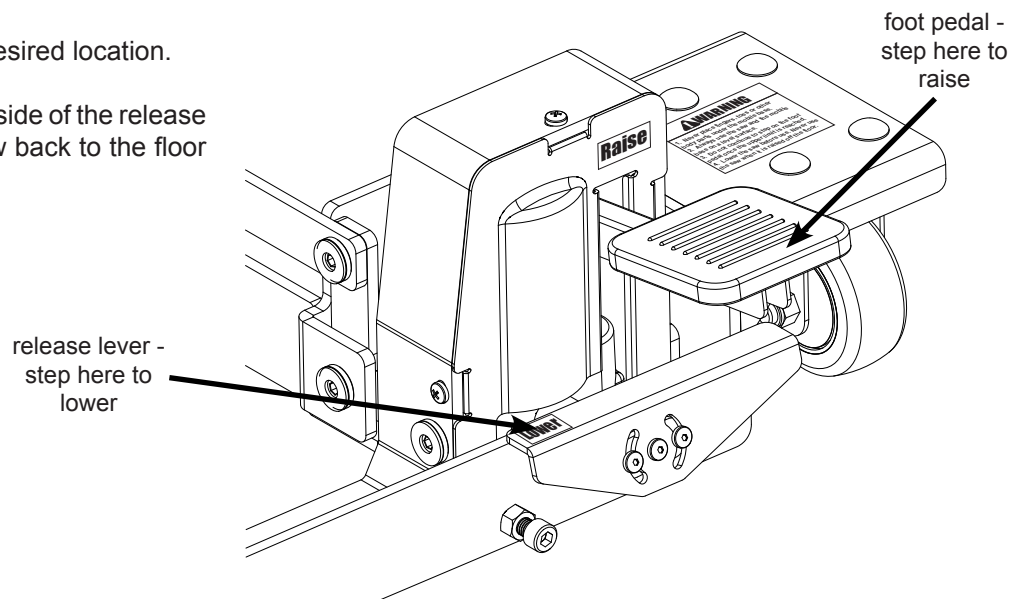

Fig. 2
1. To move your saw with the mobile base, step down on the foot pedal several times to raise the saw off the floor and onto the wheels (see Fig. 2). Do not raise the saw higher than necessary to move it. Instead, raise the saw only enough to provide sufficient ground clearance. Do not continue to step on the foot pedal once the upper limit is reached.
3. Step down on the left side of the release lever to lower the saw back to the floor (see Fig. 2).